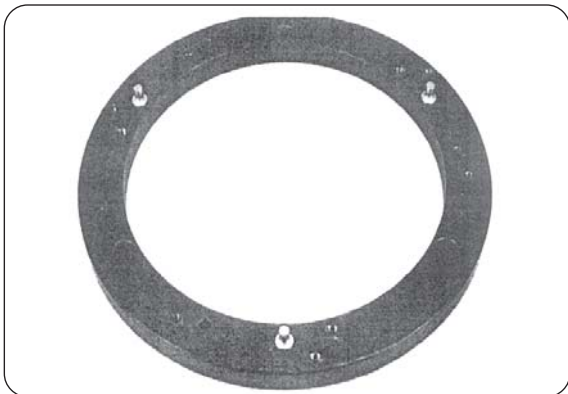

Fig. 8
2. Place pressure plate rivet correspondingly as shown in fig.8.